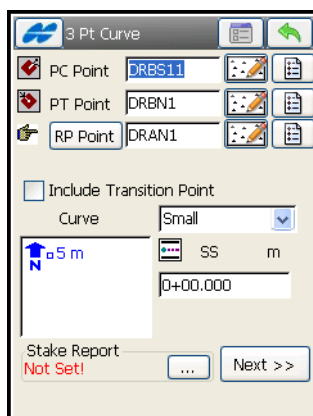

Figure 9-31. Three Points Small Curve
- The starting *PC Point* (Point of Curvature) and ending *PT Point* (Point of Tangency) on the circle, and the center point (also called a *Radius Point*). For this set of points, the distance between RP Point and PC point should be equal to the distance between RP Point and PT point. The radius and the PC and PT points define two curves, one with delta less than or equal to 180 degrees (Small curve), and the other with delta greater than or equal to 180 degrees (Large curve). Select either *Small* or *Large* from the *Curve* drop-down box (Figure 9-31) to indicate which of these two curves will be used for staking and the starting station (chainage) of the line.